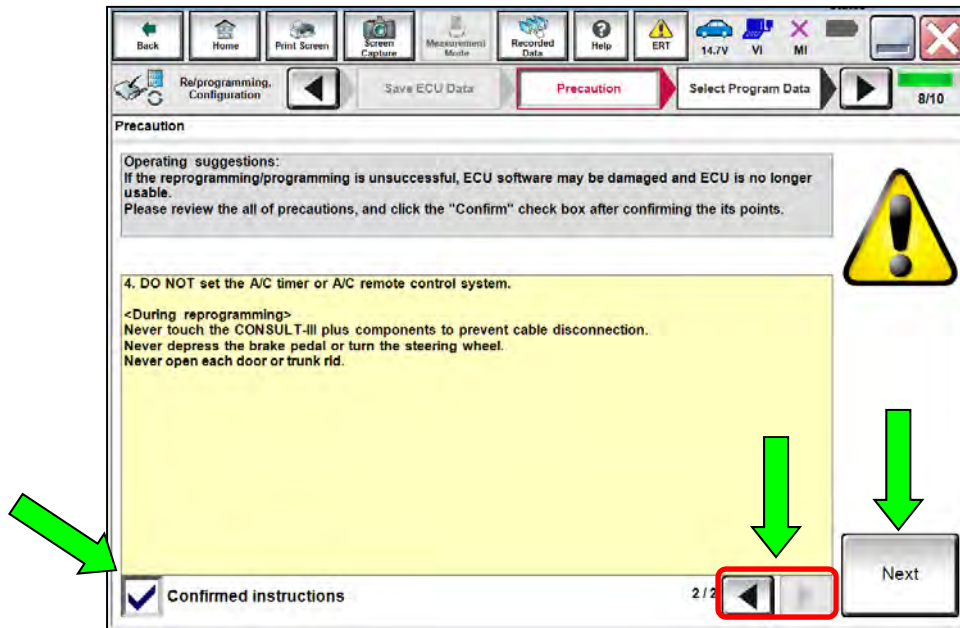

Figure 10
22. Read the **Precaution** on page 1, and then select page 2 (Figure 10) with the arrows. After reading page 2, select **Confirmed instructions**, and then select **Next**.